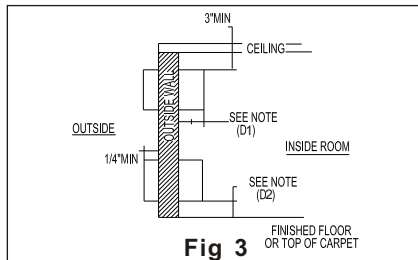

Fig 3
- E) There should be sufficient space margins around the unit to facilitate maintenance and repairs (refer to Fig 3 and 4)